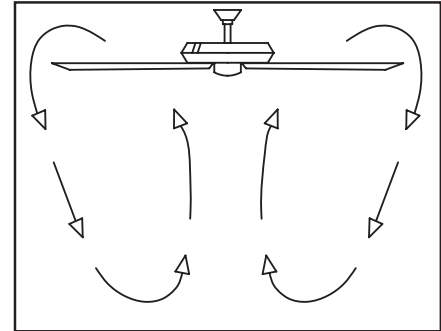

Figure 19
**Cool weather** - (Reverse) An upward air flow moves warm air off the ceiling as shown in Figure 19. This allows you to set your heating unit on a lower setting without affecting your comfort.